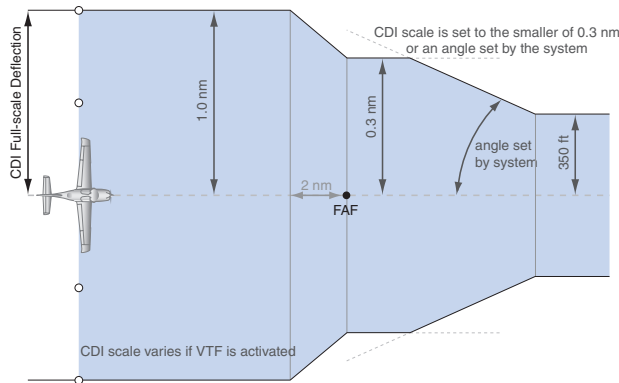

Figure 2-25 Typical LNAV and LNAV+V Approach Service Level CDI Scaling
- During **approach**, the CDI scale ramps down even further (see Figures 2-25 and 2-26). This transition normally occurs within 2.0 nm of the Final Approach Fix (FAF). The CDI switches to approach scaling automatically once the approach procedure is active or if Vectors-To-Final (VTF) are selected.